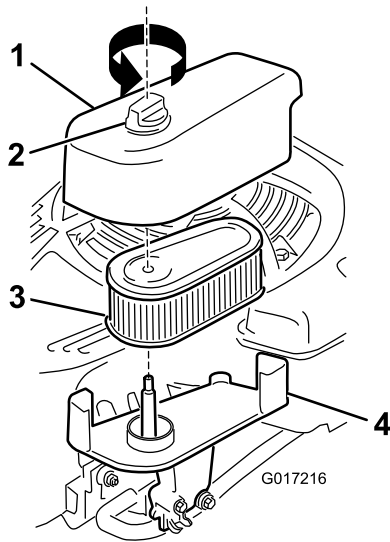

Figure 30
1. Loosen the fastener and remove the air filter cover (Figure 30).